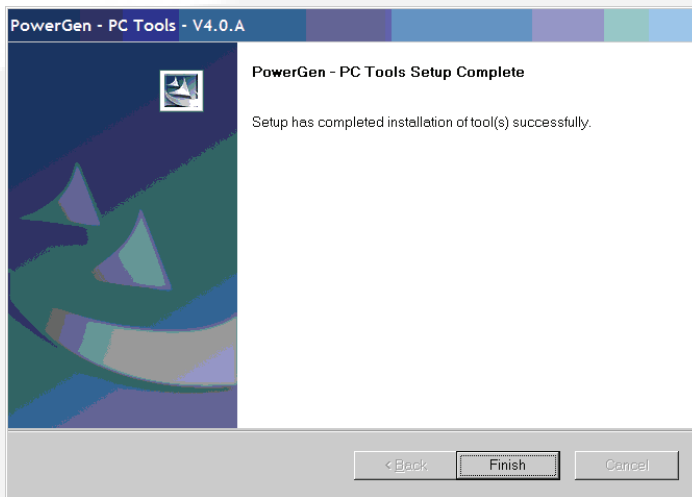

FIGURE 2-9. INSTALLATION COMPLETE
10. When the *PC Tools Setup Complete* window is displayed, click on the **Finish** button to complete the installation. Figure 2-9.